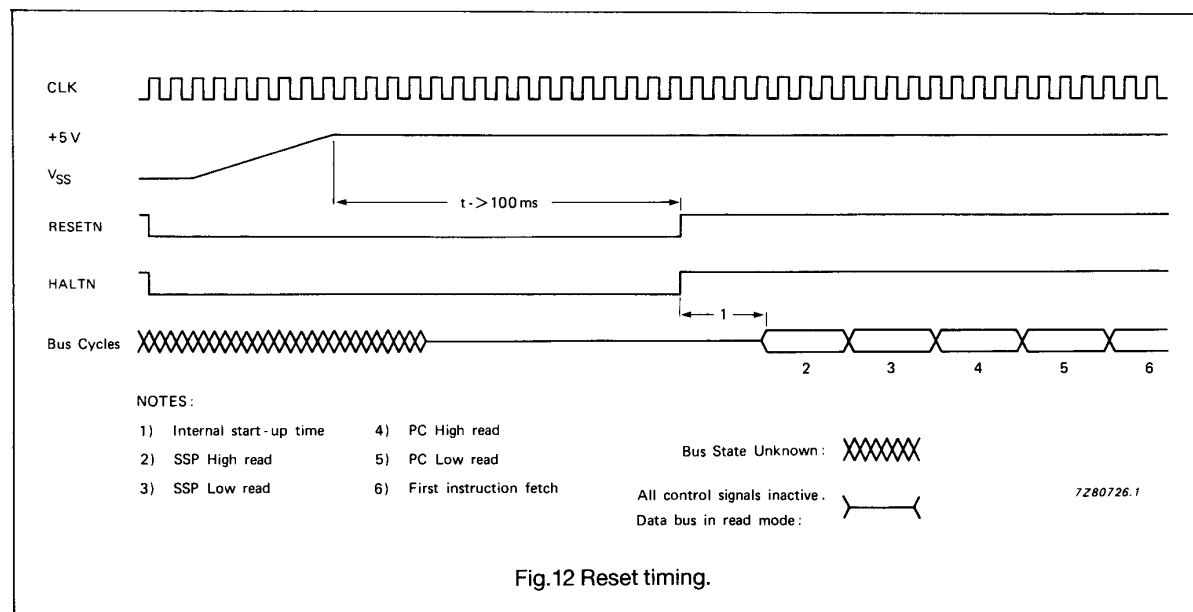

Fig.12 Reset timing.
When the CPU executes a RESET instruction, the RESETN signal is driven LOW for 146 clock cycles to reset internal and external peripherals. The CPU itself is not affected but all on-chip peripherals are reset. When both the RESETN and HALTN signals are driven LOW by an external device, the CPU and on-chip peripherals are reset. The CPU responds by reading the reset vector table entry (vector number zero, address 000000H) and loads it to the Supervisor Stack Pointer (SSP). Vector table entry number one (at address 000004H) is read next and loaded into the Program Counter (PC). The CPU then initializes the Status Register (SR) to an interrupt level of seven and instruction execution is started (see Fig.12).